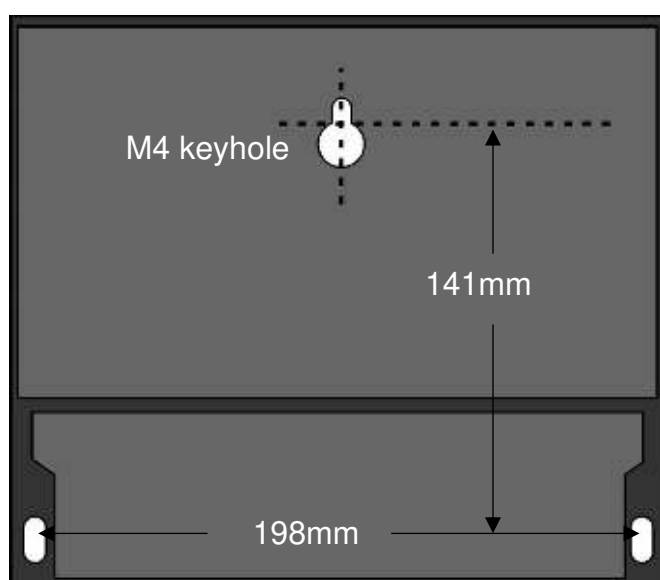

Figure 7 UF3300 mounting dimensions
4. Align the enclosure (see Figure 7) then mark out the positions for the two remaining screw fixings through the slots near the bottom corners of the enclosure. Then remove the enclosure, and drill (and plug) the fixing points.